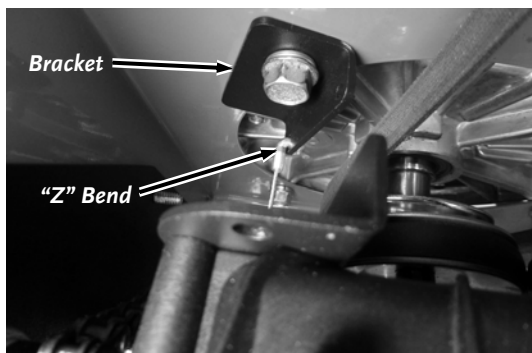

Figure 34
7. Disconnect the Z-bend end of the Drive Cable from the Bracket (**Figure 34**).
17. Reconnect the Z-bend end of the Drive Cable into the Bracket hole (**Figure 34**).